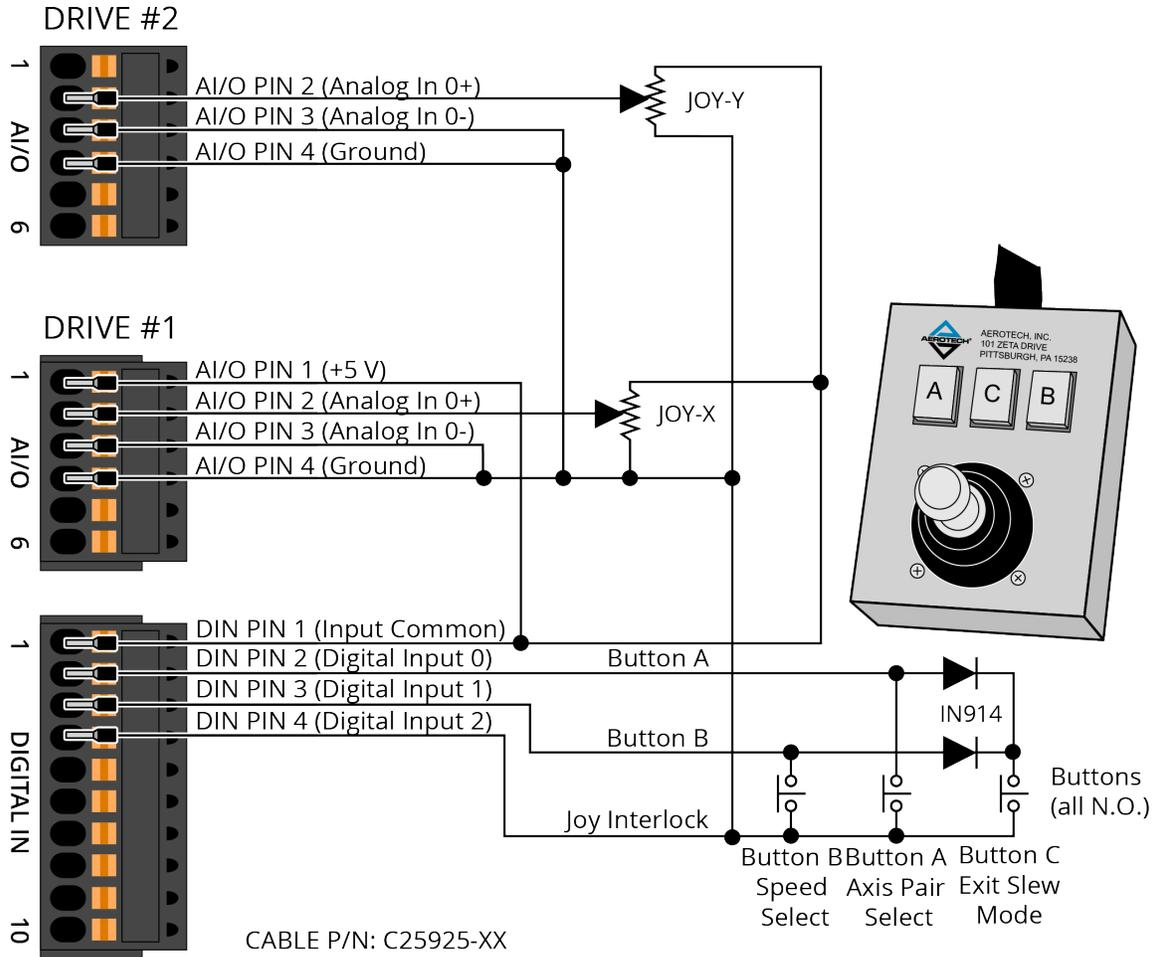

Figure 4-2: Two Axis Joystick Interface
1.01	Added System Interconnection drawing: Section 2.6. Updated Joystick Interface drawing: Figure 4-2